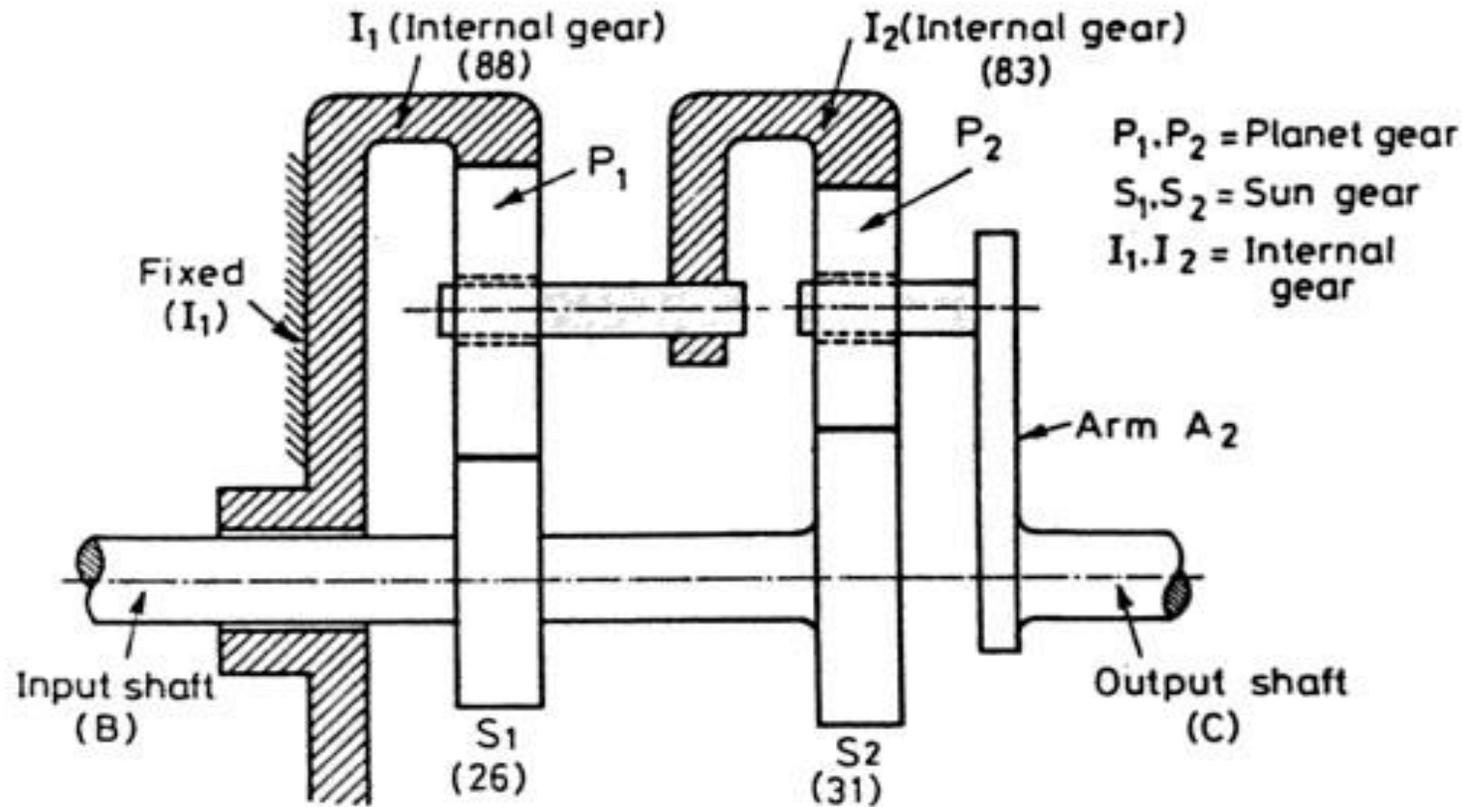

Fig. 10.26
**Problem 10.19.** Fig. 10.26 shows a compound epicyclic gear train in which the two gears  $S_1$  and  $S_2$  are integral with the input shaft, B. The arm,  $A_2$  is integral with the output shaft, C. The planet gear  $P_2$  revolves